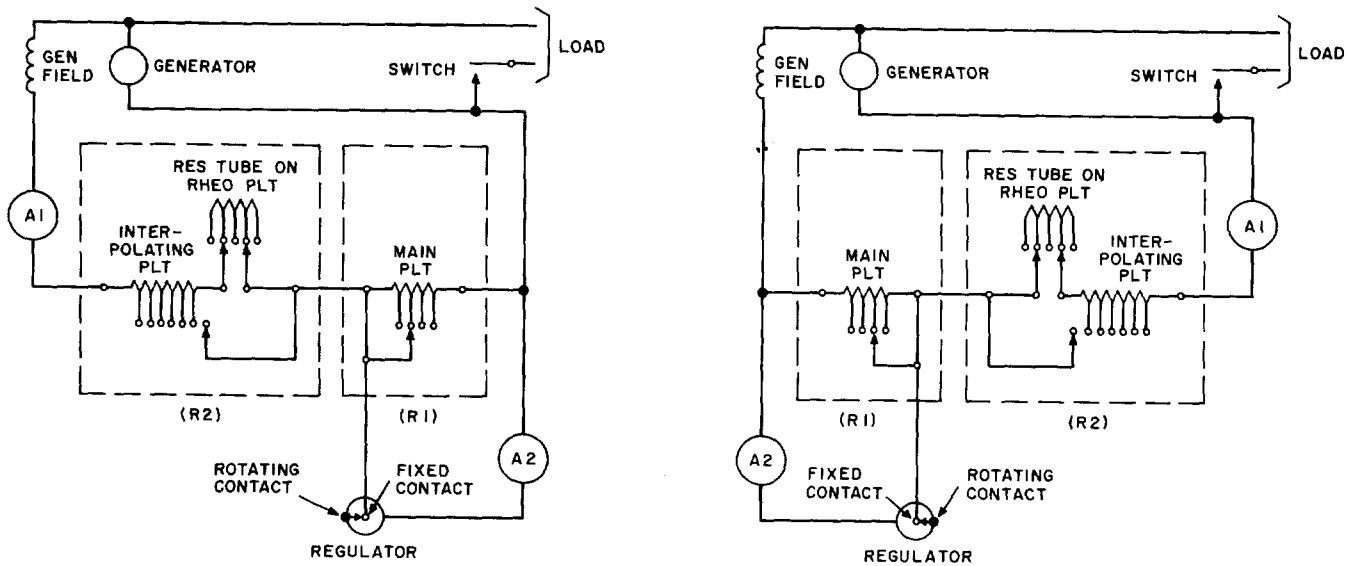

Fig. 9—Schematic Connections for Calculations Percent Contact Current
- (1) The percent contact operation equals the current read on the ammeter in the regulator circuit (Ammeter 2 in Fig. 9) divided by that read on the ammeter in the generator field circuit (Ammeter 1 in Fig. 9) times 100.
- (2) All adjustments under percent contact operation should be with the machine cold, that is with not more than five minutes of operation out of each half hour.
- (3) The addition of a regulator to an existing charging generator other than a 75-ampere, 33-volt machine requires substitution of a special rheostat. The testing and adjustment of this new rheostat is covered separately below.
- (4) The addition of a regulator to an existing 75-ampere, 33-volt machine can usually be made using the same generator field rheostat as used for manual regulation. The rheostat marking however may have to be changed.
- (5) During normal operation, some ac machines in offices having a large PBX ringing load, may require additional adjustment of the field rheostat (R₁ of Fig. 9) to stay within the voltage requirements under actual load conditions after turnover.
- (6) Loading of dc generators, if permitted by the supervisor, may be obtained by discharging the battery with normal office load where practical until the voltage of the battery approaches minimum circuit limits. Use emergency cells where feasible to permit the battery to be discharged further and yet maintain the necessary voltage limits at the fuse panel. Where the office load is not sufficient to reduce the battery voltage in a reasonable time or when such discharge is not permitted, an artificial load may be necessary. For information on artificial loads, see the section on test loads for power equipment.
(10) Disconnect the regulator (both armature and contact circuits) from its associated generator. This may usually be accomplished for dc generators by throwing the regulator switch to the OFF position or for ac generators by removing the collector ring brush and the fuse in the regulator transformer circuit.
(11) Insert ammeters in series with the generator field and regulator contact leads as shown schematically in Fig. 9. In general, these ammeters should have a full-scale reading of approximately 2 percent of the full-ampere rating of the associated dc generator, and of about 1-1/2 amperes for ac machines.
- (18) Read the generator no-load field amperes and the regulator contact amperes.
- (19) If the no-load percent contact operation is outside the limits, attempt to get it inside by operating the dial disregarding the voltage momentarily.
- (20) When the no-load percent contact operation is satisfactory, see that the voltage is still at the normal operating voltage. Adjust if necessary, with the main plate of the generator field rheostat R_1 of Fig. 9. If high, bring to about 14 percent, if low to about 3 percent and recheck the percent contact and voltage with the machine cold.
- (21) When the no-load percent contact operation and voltage are satisfactory, proceed with the full-load test. Connect the discharged battery or artificial load to the regulated machine. When a discharged battery is first connected, initial current will probably exceed the full-load current rating of the generator but will gradually decrease. With the output current at full load for the machine, read the generator field amperes and regulator contact amperes.
- (22) If the full-load percent contact operation is outside the specified limits, change the interpolating plate R_2 or preferably, where